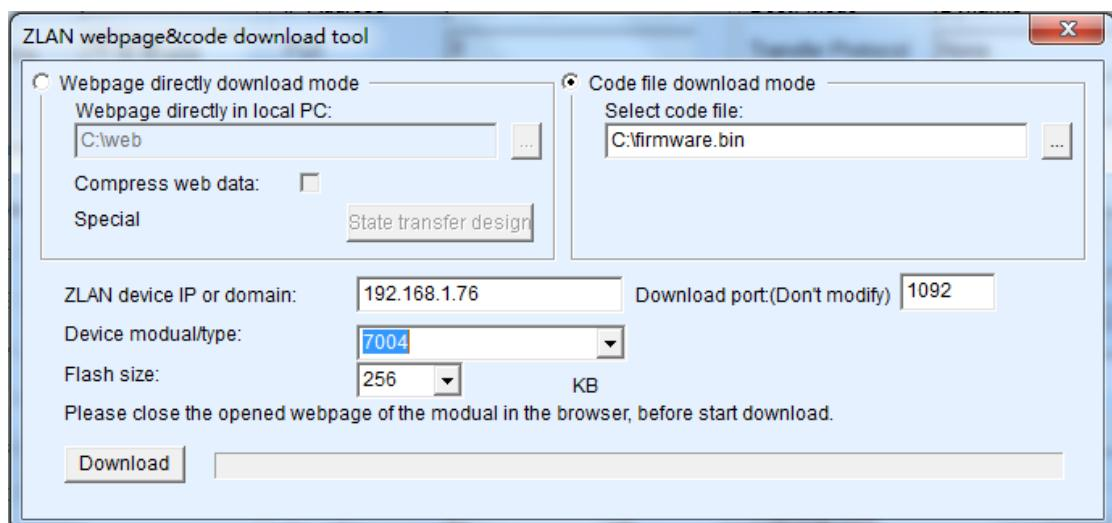

Figure 35 ITT-SR4780 Firmware Upgrade Method
- 4) Select "Code file download mode" as shown in figure 35. In the program file, choose the firmware file. The IP address part of the networking product has been automatically filled out and no further writing is required. The module type/model has been selected automatically. Then click download.
- 8) The configuration pages within the module also need to be updated after the firmware upgraded, otherwise the Web configuration will not be available again. The way to download the Web is: shown as FIG. 35, change the "Code file download mode" to "Webpage directory download mode". And choose the root directory of local Webpage as the file directory for the Webpage file needed to download (the directory can be obtained from ITTELECOM), click on the download, all files in the local Webpage directory will be downloaded to the file system within ITT-SR4780.